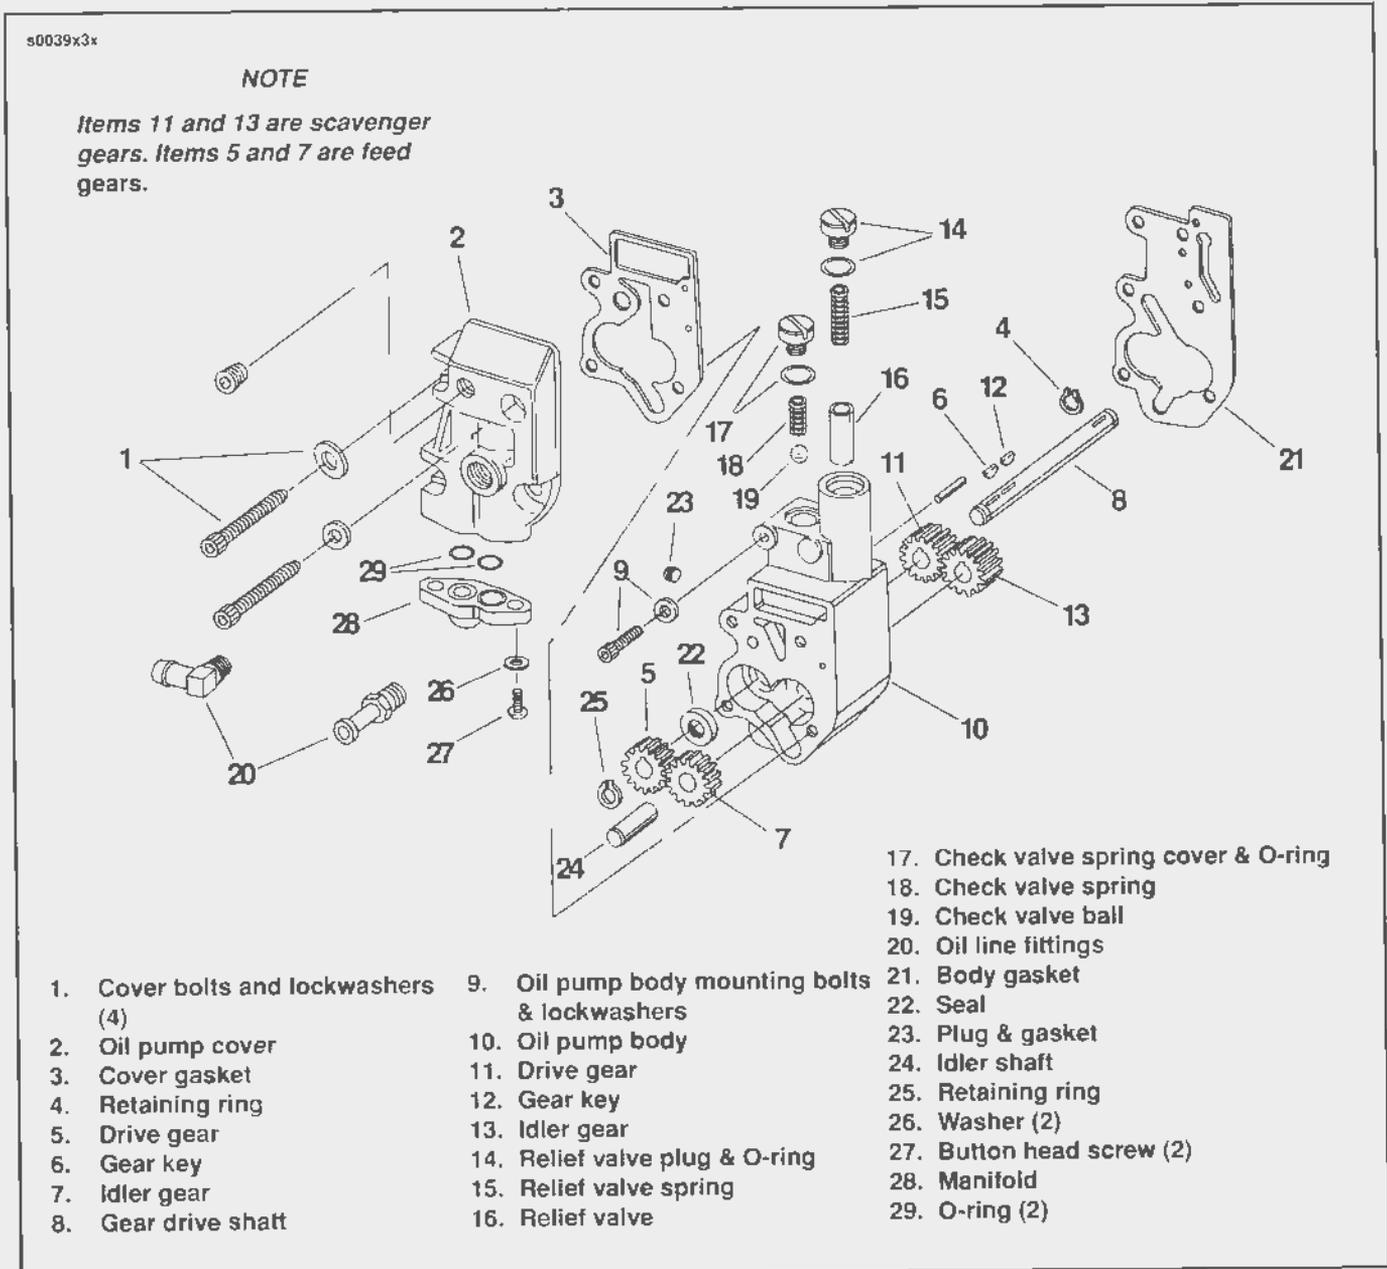

Figure 3-42. Engine Oil Pump
See Figure 3-42. The oil pump can be disassembled, piece-by-piece without removing gearcase cover, with engine in chassis as follows:
2. See Figures 3-42 and 3-44. Remove bolts and lockwashers (1) that hold oil pump cover in place. The upper inside pump cover bolt(s) must be removed with the pump body.
1. See Figure 3-42. Install oil pump fittings (20).
2. Install check valve ball (19), valve spring (18), cover screw, and O-ring (17).
3. Install relief valve (16), spring (15), plug, and O-ring (14). Tighten plug to 80-110 **in-lbs** (9.0-12.4 Nm).
4. Install key (12) and drive gear (11) on drive shaft (8).
5. Install idler gear (13) on idler gear shaft from back side of oil pump body (10).
6. Place **new** gasket (21) on gearcase and install pump body (10) with top inside pump cover bolt and tighten mounting hardware (9) to 60-85 **in-lbs** (6.8-9.6 Nm).
7. Install a **new** drive shaft seal (22) in the pump body with the lip facing toward the feed gears. Install key (6) and drive gear (5). Secure drive gear (5) with **new** lock ring (4).
8. Install idler gear (7).